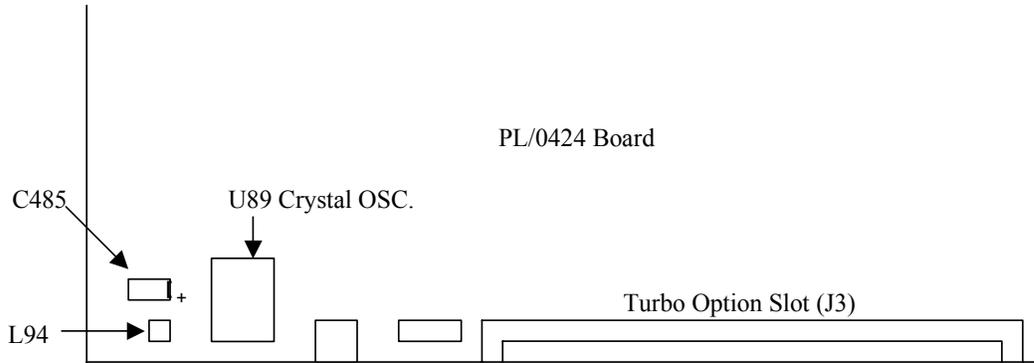

Figure 2
- 9 Locate the capacitor at C485 and inductor at L94 on the PL/0424 IF modem card. See Figure 2.